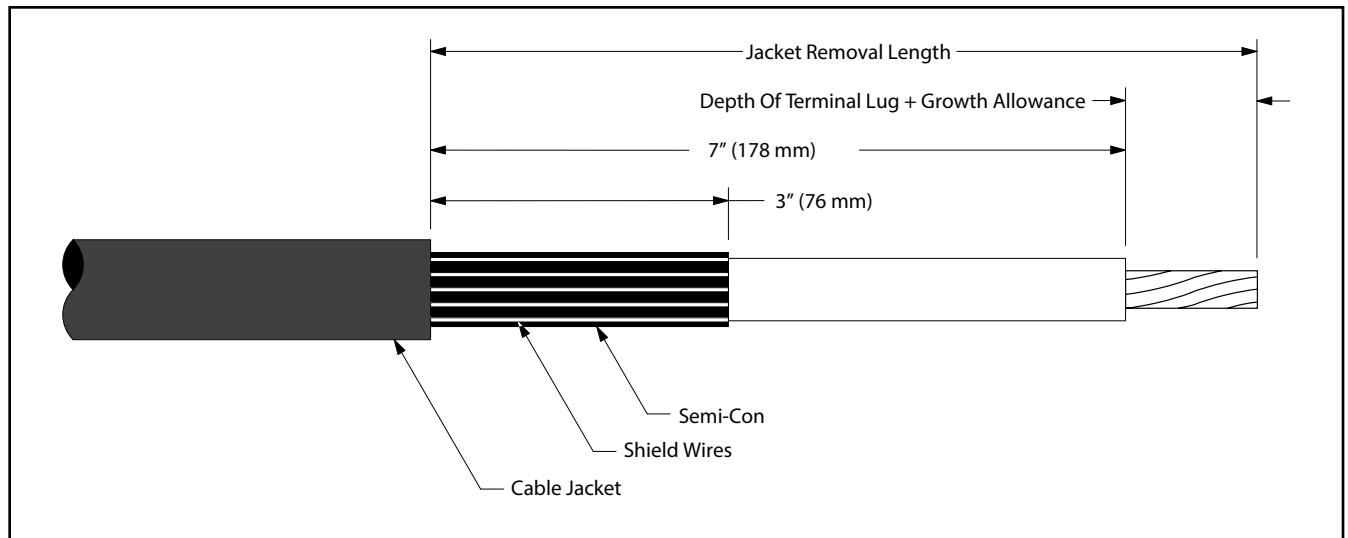

Figure 8
7.2 Prepare cable using dimensions shown in Figures 8 and 9. **BE SURE TO ALLOW FOR DEPTH OF TERMINAL LUG.**